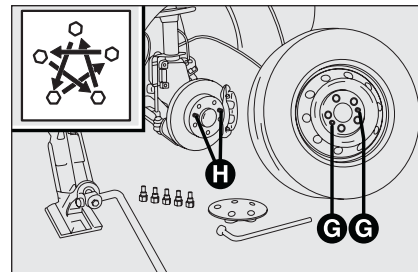

fig. 9a
- ☐ fit the spare wheel, making sure that the openings **G**-fig. 9a are aligned with the pins **H**. When fitting the spare wheel, ensure that the wheel support surfaces are clean and free of impurities that could later cause the bolts to loosen;
- ☐ fully tighten the bolts, passing alternately from one bolt to the opposite one, following the order illustrated in fig. 9a.